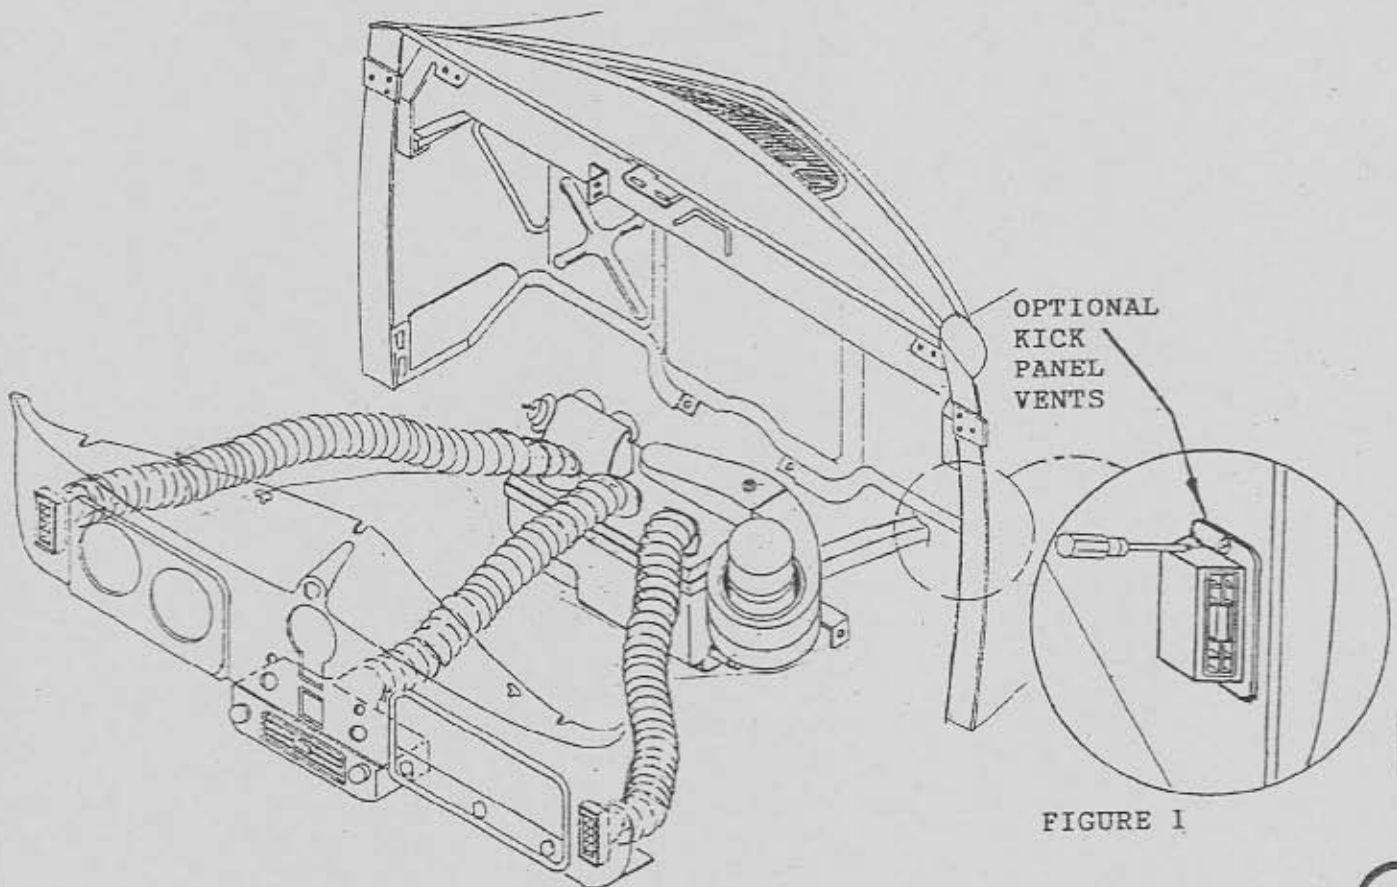

FIGURE 1
2. The evaporator should fit with blower motor toward the top of the cowl. Duct hoses outlets face upper cavity. Drain outlet is always on the bottom (down)side of the evaporator, see figure 1 below.
7. The duct hose should be put on the evaporator at this point and run to the vents to insure proper clearance. See figure 1, page 5.